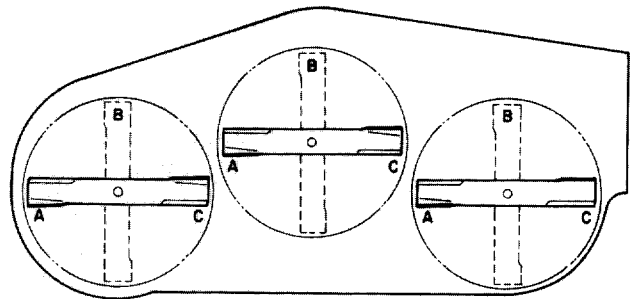
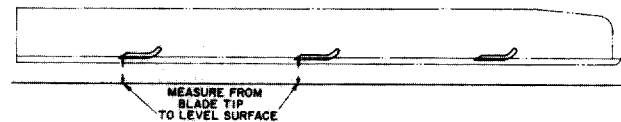
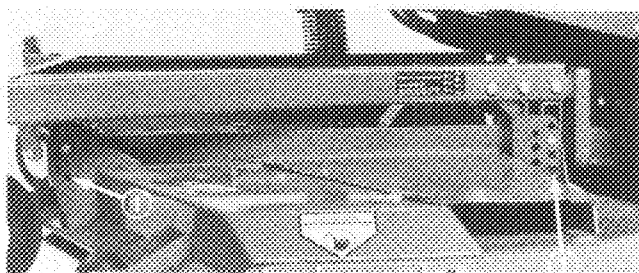

Figure 29
Figure 30
Figure 31
2. Raise height-of-cut to 4 in. (102 mm) position (Fig. 31); refer to Adjusting Height-Of-Cut, page 9.
5. Position all three blades in the "A" position (Fig. 31) and measure from level surface to the bottom of the tip end of each blade (Fig. 30).
6. Note measurement attained at "A", rotate blades to "B" position (Fig. 29), measure distance of all blades to level surface and note dimensions (Fig. 30).
7. Rotate blades to "C" position, measure and note distance measured (Fig. 29, 30).